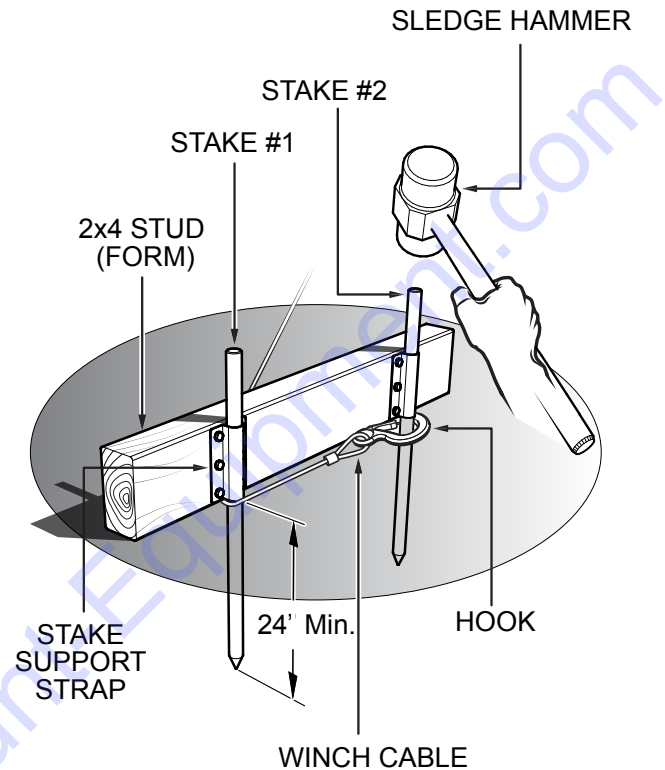

Figure 18. Attaching Winch Stakes
Figure 18 illustrates the correct method of attaching the winch cables to the form stakes. If the winch cables are not attached to the form stakes correctly, the cables could snap loose causing severe bodily harm and damage to the equipment.
2. Loop the hook end of the winch cable around the first stake from the end of the form as shown in Figure 18. Make sure you go underneath the form.
**DO NOT** hook winch cables to a stake driven directly into the ground. Stake should be installed as shown in Figure 18. The stake can tilt and allow winch cable under tension to snap and break free causing severe bodily harm and damage to equipment.